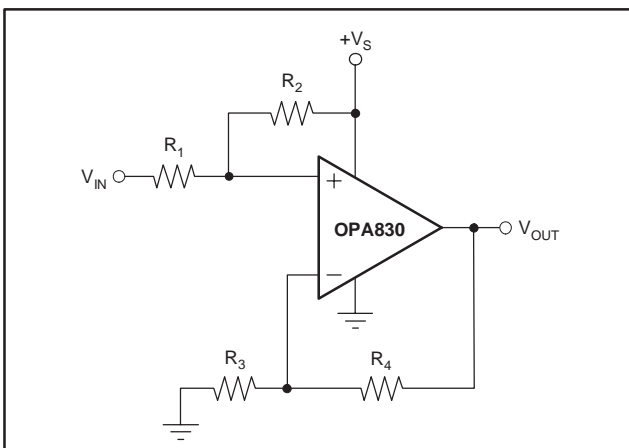

Figure 4. DC Level-Shifting
Figure 4 shows a DC-coupled noninverting amplifier that level-shifts the input up to accommodate the desired output voltage range. Given the desired signal gain (G), and the amount V_{OUT} needs to be shifted up (ΔV_{OUT}) when V_{IN} is at the center of its range, the following equations give the resistor values that produce the desired performance. Assume that R_4 is between 200Ω and 1.5kΩ.